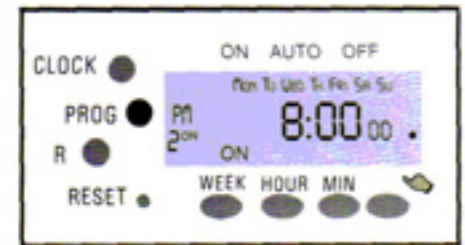

Figure 9
- 2.11 Press **PROG** again to enter program mode for second "ON/OFF" program. The display should now show "2 ON" (See Figure 9).